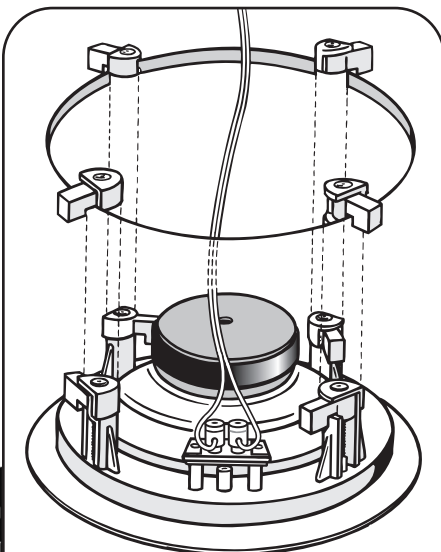

FIG. 6
6. See Fig. 6. With the speaker wire attached to the speaker, slide the speaker up inside the cut-out hole. Center the speaker in the cut-out hole and turn the four locking screws clockwise until the speaker is drawn up snugly to the wall board from behind, clamping the speaker in place. Try to tighten each screw equally. Replace the speaker grille by gently placing it over the speaker until the magnets "grab" hold of the grille.